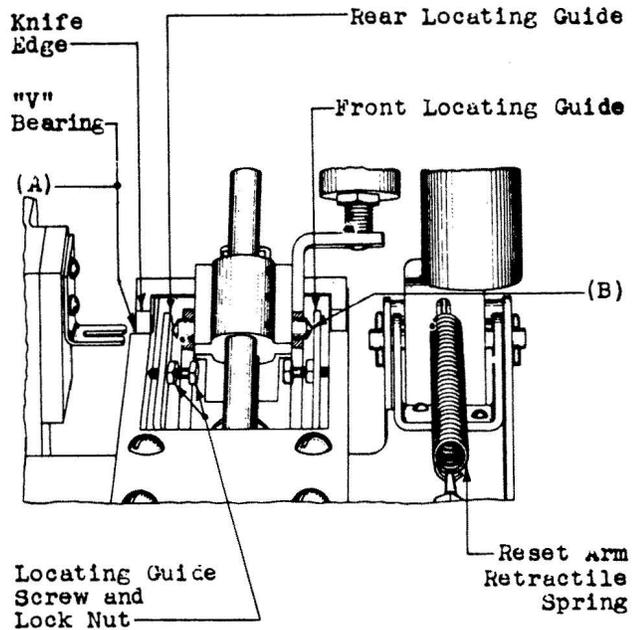

Fig. 5 - Pendulum Knife Edges and Locating Guides
(a) Fig. 5 (A) - The "V" bearings and knife edges shall be free from all foreign matter.
2.06 Location of Pendulum - Fig. 5 (B): There shall be play between the pendulum and the front and the rear locating guides but this play shall not exceed .004" and the ends of the knife edges shall not extend beyond the ends of the bearings with the end play taken up in either direction. Use the No. 74D gauge.